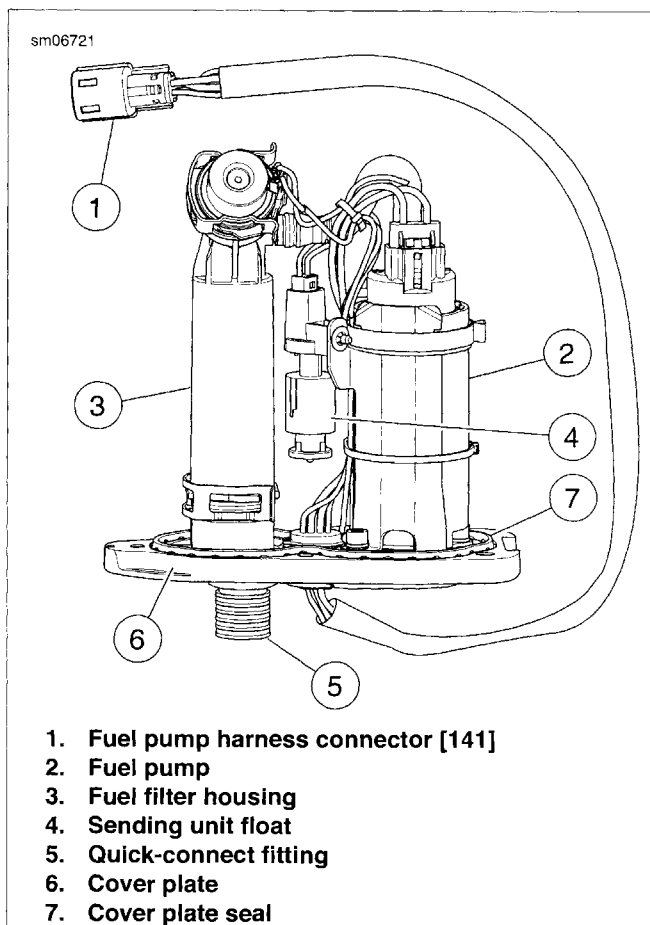

Figure 4-79. Fuel Pump Module
3. See Figure 4-79. Unplug fuel pump harness connector [141] (1), located forward of fuse/relay block on left side of vehicle.
9. See Figure 4-79. Remove and discard cover plate seal (7).